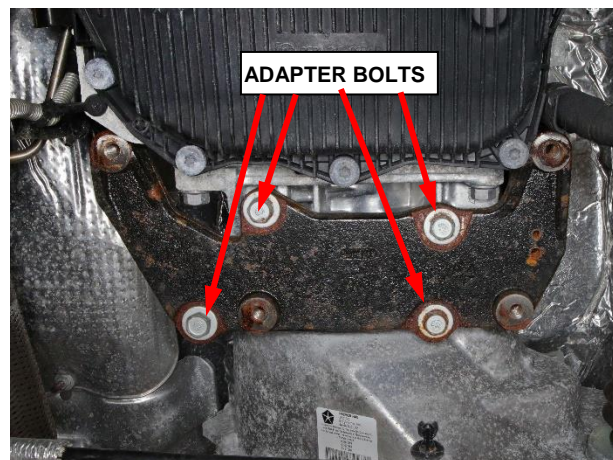

Figure 6 – Rear Engine Mount Bracket
100. Connect the CAC hose (1) from the EGR air flow control valve (Figure 6).
16. Remove the four bolts and the rear engine mount bracket (Figure 6).